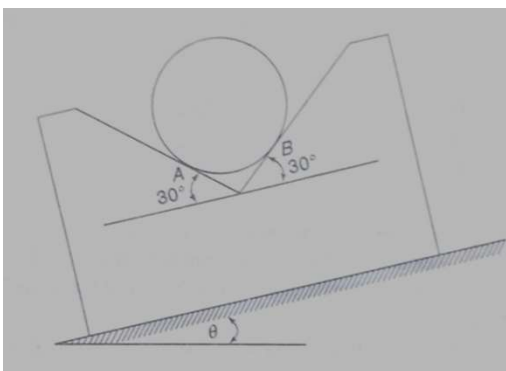

Figure 1.8
14. A ball rests in a trough as shown in Figure 1.8. Determine the angle of tilt θ with the horizontal so that the reactive force at B will be one-third at A if all surfaces are perfectly smooth.